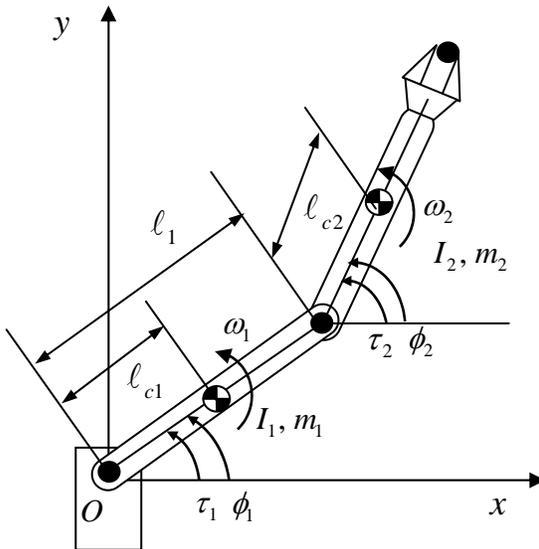
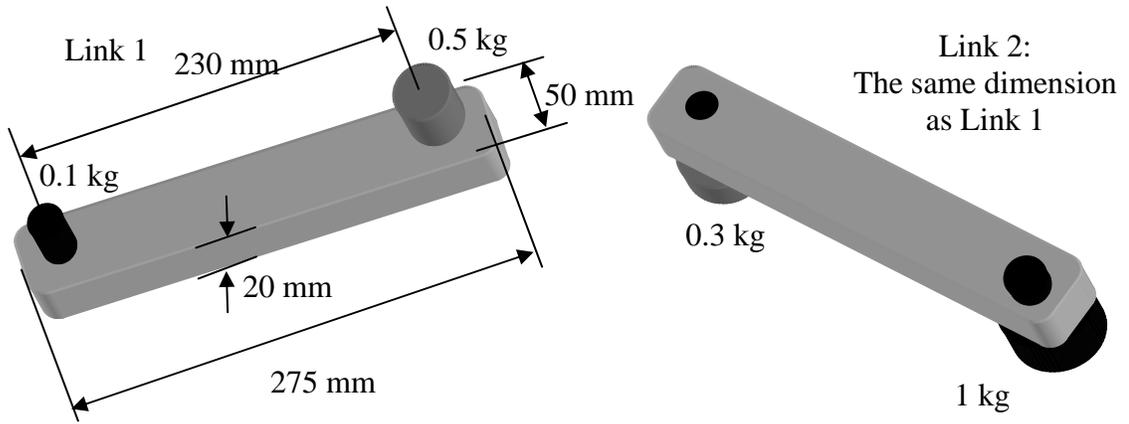

Figure 4 Variables and parameters of the 2.12 arm
Figure 6 Link dimensions and masses attached to the links
- Obtain mass properties of each link, i.e.  $m_i$ ,  $\ell_{ci}$ ,  $I_i$ , as defined in Figure 4. Figure 6 illustrates the disjointed arm links (Details are ignored for computing the mass properties). Each arm link consists of an aluminum bar of 275 mm x 50 mm x 20 mm and two masses at both ends of the link. For simplicity, the masses at both ends are treated as mass particles having no moment of inertia. Obtain the mass, the location of the center of mass, and the moment of inertia about the center of mass,  $m_i$ ,  $\ell_{ci}$ ,  $I_i$ , for each link.